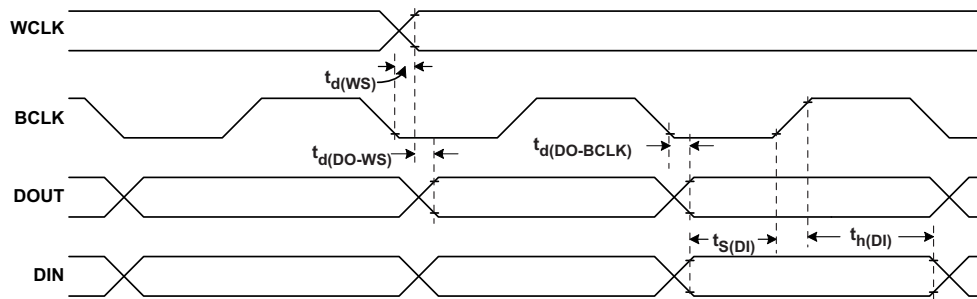

Figure 1. I²S/LJF/RJF Timing in Master Mode
(1) Applies to all DI, DO, and DIO pins shown in Pin Configuration and Functions
8.11 I²S/LJF/RJF Timing in Master Mode (see Figure 1)